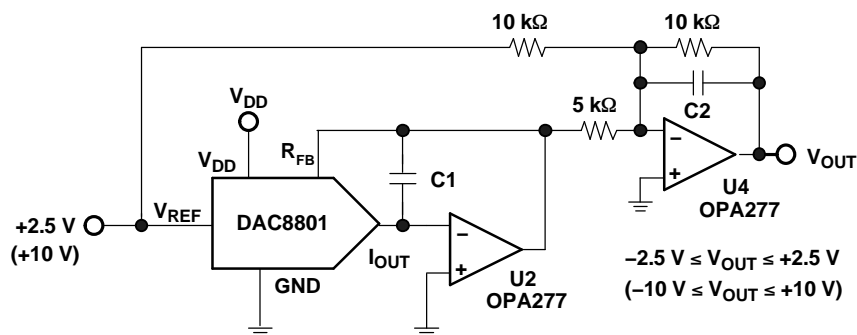

Figure 22. Bipolar Output Circuit
Some applications require full 4-quadrant multiplying capabilities or bipolar output swing. As shown in Figure 22, external op amp U4 is added as a summing amp and has a gain of 2X that widens the output span to 5 V. A 4-quadrant multiplying circuit is implemented by using a 2.5-V offset of the reference voltage to bias U4. According to the circuit transfer equation given in Equation 2, input data (D) from code 0 to full scale produces output voltages of $V_{OUT} = -2.5$ V to $V_{OUT} = +2.5$ V.